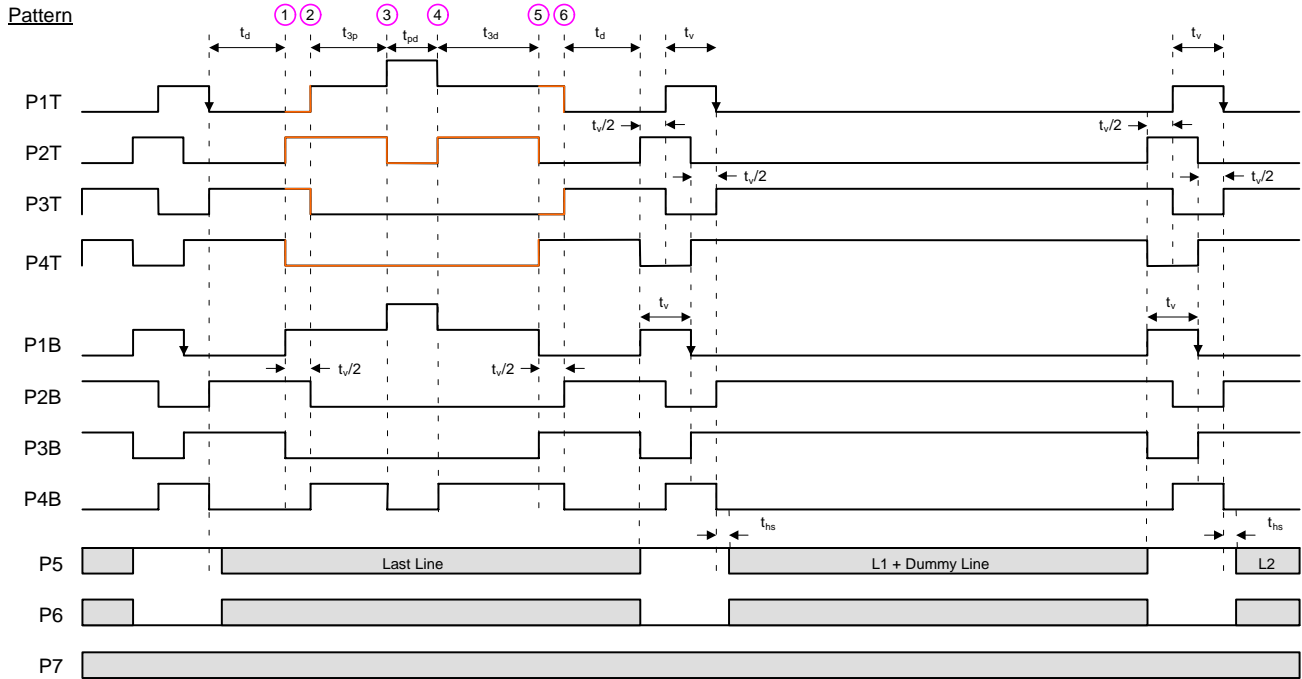
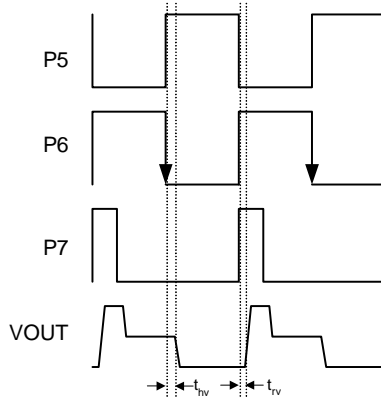
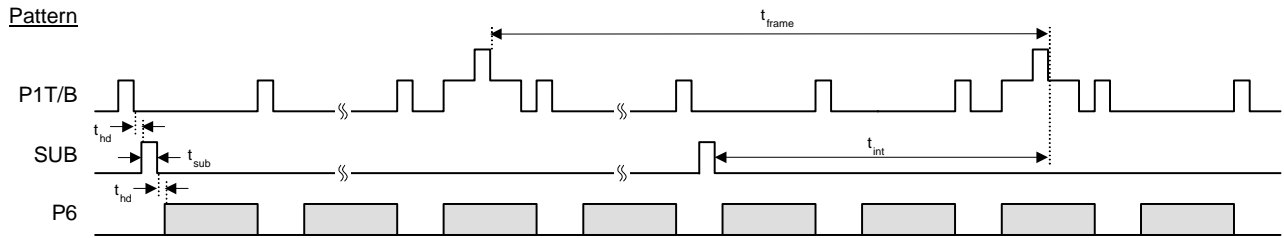
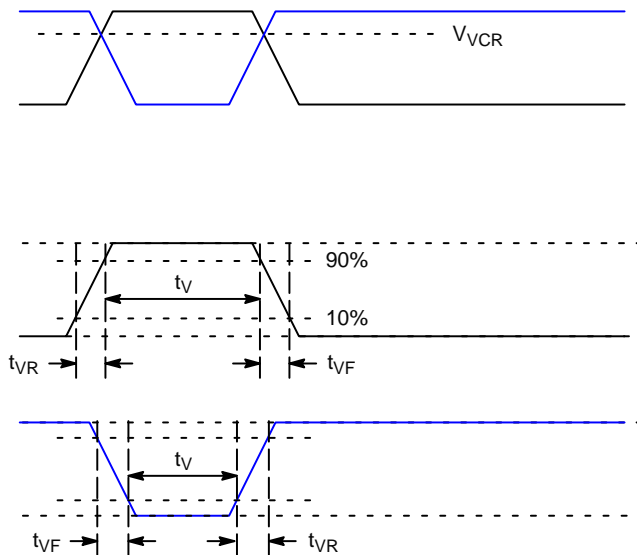

Figure 24. Photodiode Transfer Timing
Figure 26. Pixel Timing Detail
Figure 27. Frame/Electronic Shutter Timing
Figure 28. VCCD Clock Edge Alignment
1. Refer to timing diagrams as shown in Figure 24, Figure 25, Figure 26, Figure 27 and Figure 28.
2. Refer to Figure 28: VCCD Clock Edge Alignment.
The timing sequence for the clocked device pins may be represented as one of seven patterns (P1–P7) as shown in the table below. The patterns are defined in Figure 24 and